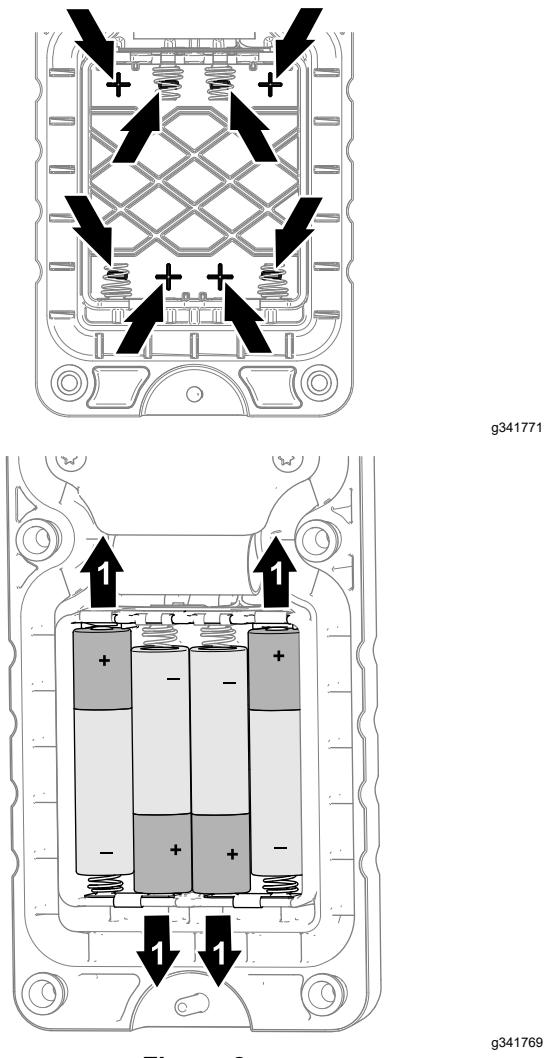

Figure 8
- Observing battery polarity as shown in Figure 8, insert the new batteries into the terminal cradles.
Note: To avoid damaging the terminal cradles when installing batteries, observe proper polarity markings (Figure 8) that are embossed onto the